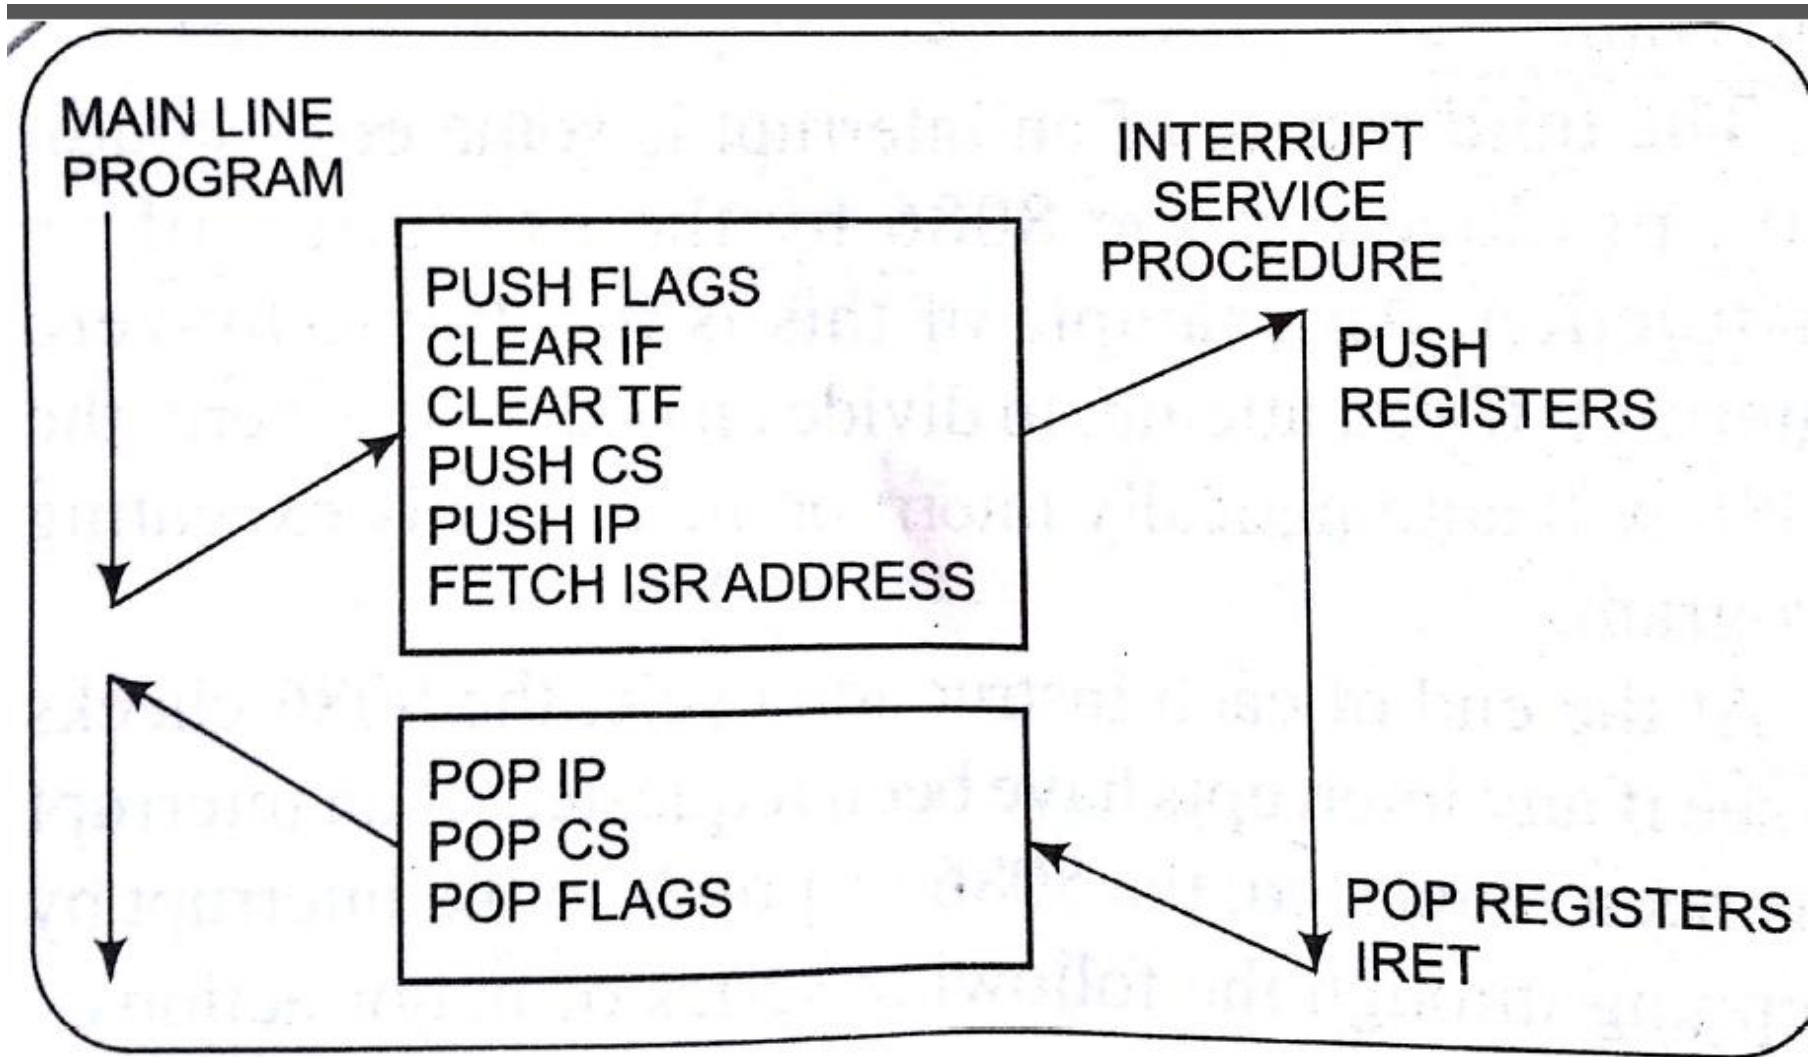

Fig. 8.1 8086 interrupt response.
- Fig 8.1 summarizes these steps in diagram form